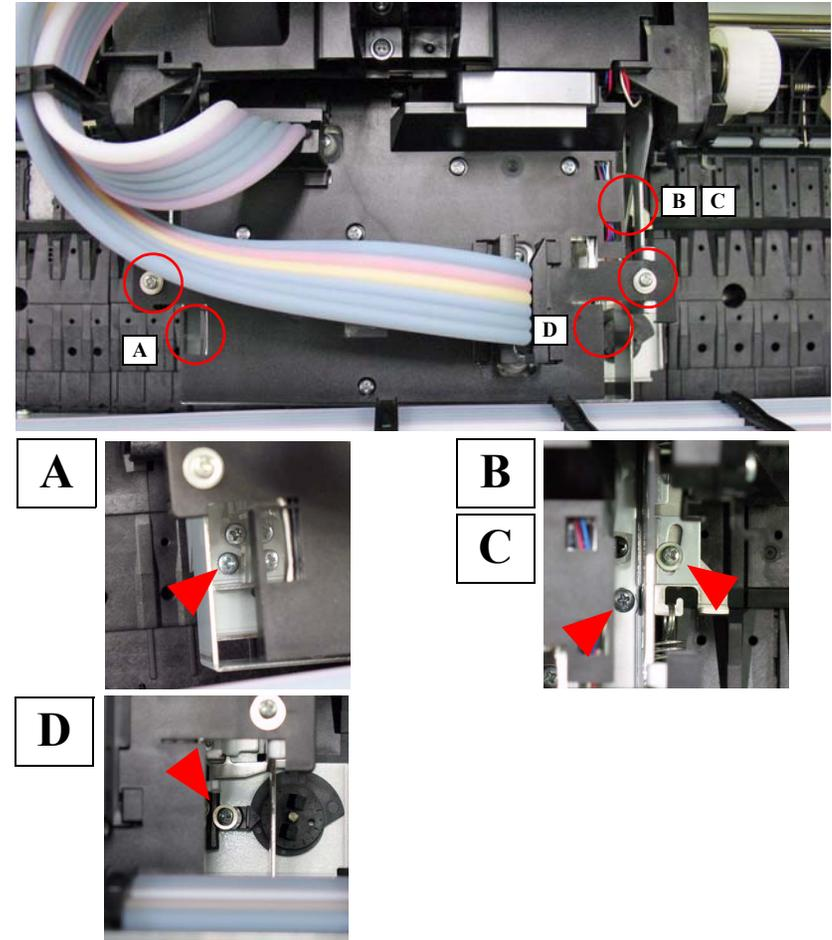

Figure 5-32. Adjustment Screws
8. Loosen the screws (x6) shown in **Figure 5-32.**